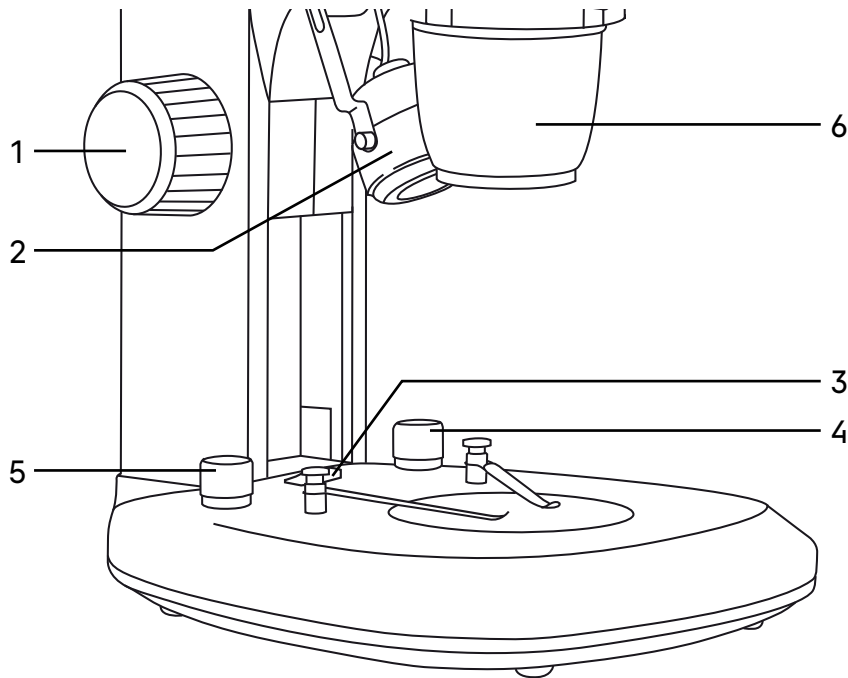

Fig. 2. Switching on the illumination
Turn the ON/OFF switch **3** (Fig. 2) to "-" position (ON). Transmitted light and reflected light illuminators are switched on.
For the reflected light microscopy, the illuminator **2** (Fig. 2) is used, and its light intensity is adjusted by the knob **5** (Fig. 2). For the transmitted light microscopy, the illuminator brightness is adjusted by the knob **4** (Fig. 2).
Before switching off the microscope, rotate the knobs **4** and **5** (Fig. 2) to the minimum.
Use the ring light if you need shadow-free lighting to observe a specimen. The ring light is mounted on the objective **6** (Fig. 2).
Rotate the knob **1** (Fig. 2) to move the focusing mechanism so that the distance between the specimen and the objective approximately corresponds to the working distance of the objective according to the specifications given in Table 2.
With properly adjusted tension, the microscope head does not lower under its own weight. If you need to adjust the tension of the coarse focusing, hold the left coarse focusing knob **1** (Fig. 2) with one hand and rotate the right knob with the other hand to adjust the tension. By rotating it counter-clockwise, you loosen the tension, and by rotating it clockwise, you tighten it. Too high tension can cause inconvenience in the operation.